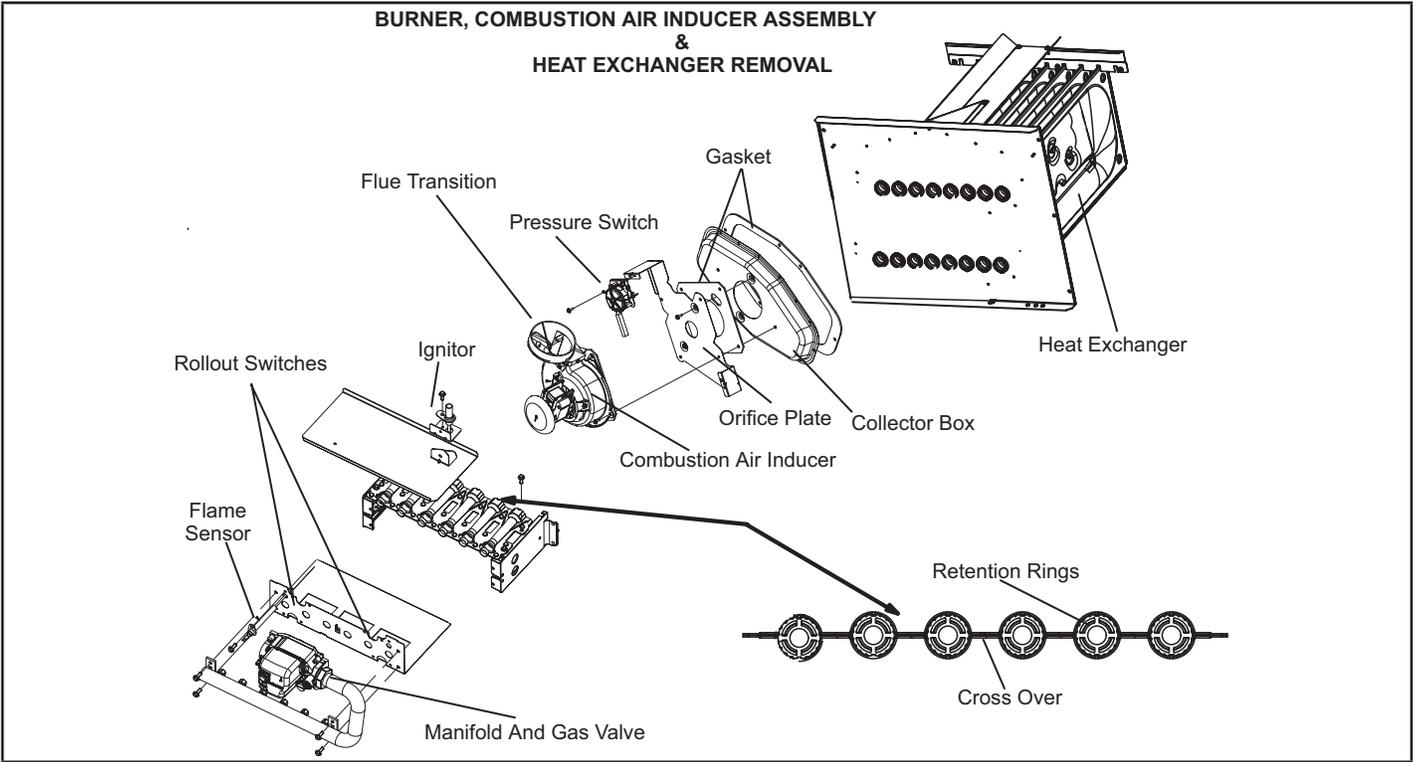

FIGURE 26
- 10 -To clean burners, run a vacuum cleaner with a soft brush attachment over the face of burners. Visually inspect inside the burners and crossovers for any blockage caused by foreign matter. Remove any blockage. FIGURE 26 shows burner detail.